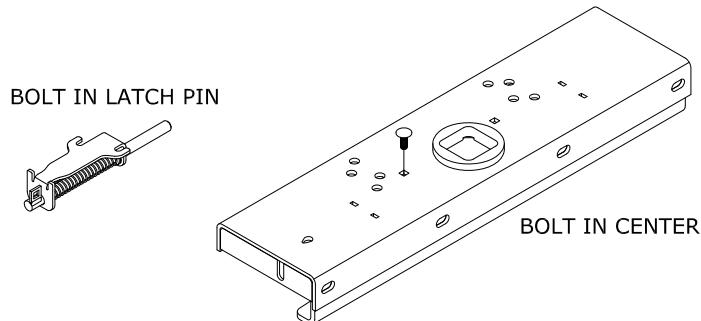

FIGURE B4: Bolt in latch pin design center section
**The center section provided with your 1012 mounting kit may be a bolt in latch pin design. These instructions are written to accommodate both the weld-in style latch pin and the bolt in style latch pin, see figure B4**